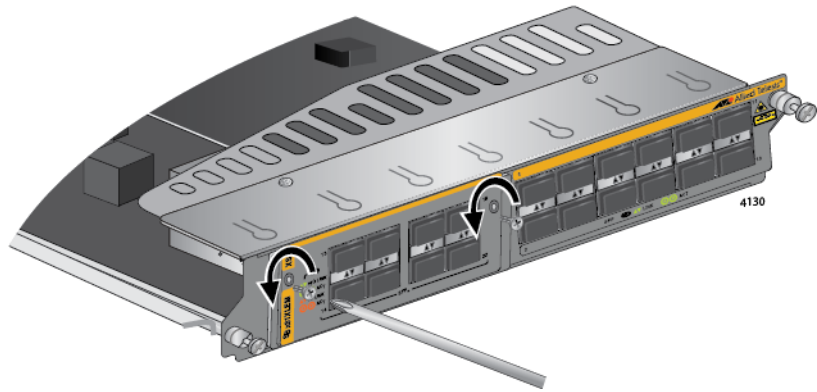

Figure 163. Removing the Screws from the Expansion Module
3. With a Phillips-head screwdriver, remove the two screws that secure the expansion module to the line card. Refer to Figure 163 on page 258.